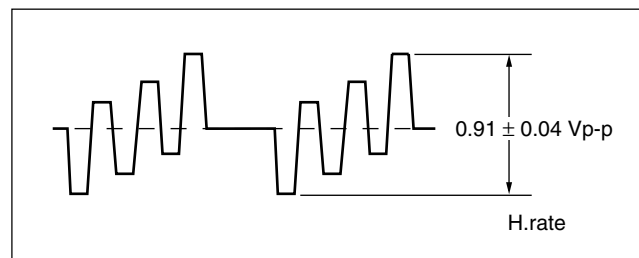

Fig. 3-5-7 B-Y level
- Adjust VR4 so that the B-Y level is  $0.91 \pm 0.04$  Vp-p as shown in Fig. 3-5-7.